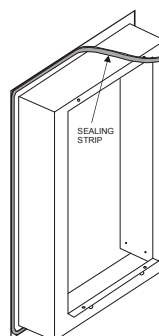
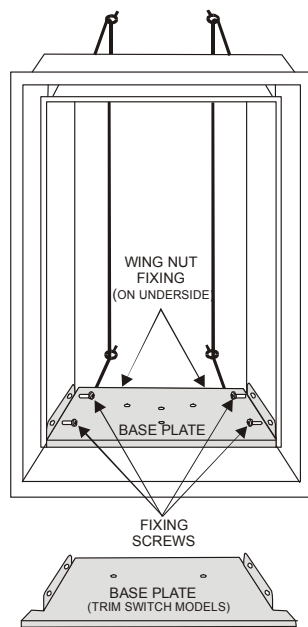

Figure 69
Figure 71
4. Remove the base plate (see **Figure 71**), then fit the sealing strip to the rear of the flange, as shown in **Figure 69**.